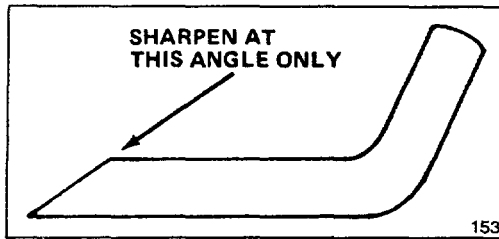

Figure 21
7. **SHARPENING BLADE**—Using a file, sharpen top side of blade (side facing mower housing) and maintain original cutting angle (Fig. 21). The blade will remain balanced if the same amount of material is removed from both cutting edges.